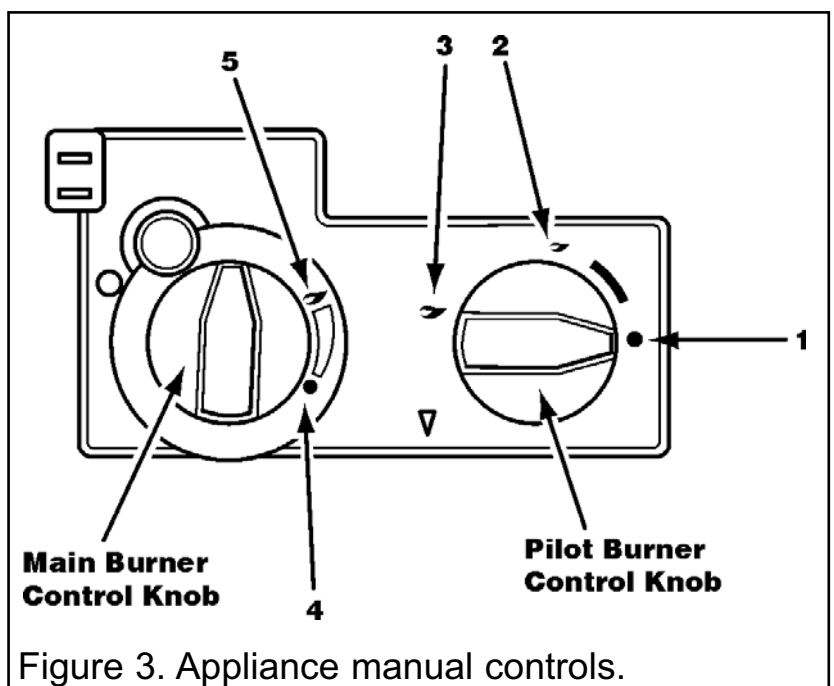

Figure 3. Appliance manual controls.
1. Ensure that the pilot burner control knob is in the OFF position (Number 1 in figure 3).
2. Depress the pilot burner control knob and turn slowly anti-clockwise to the ignition position (Number 2 in figure 3) to activate the piezo ignition system. A 'click' will be heard and the pilot should light. Observe if it is alight by looking through the slots to the left hand end of the front coals. If the pilot does not light immediately, repeat the above procedure, keeping the knob depressed for several seconds
1. Once the pilot light is established, light the main burner by turning the pilot burner control knob anti-clockwise to the "main burner on" position (Number 3 in figure 3), and by then turning the main burner control knob to the high position (Number 5 in figure 3).
2. Check the full range of heat settings by turning the main burner control knob slowly between the high position and the low position (Number 4 in figure 3).
Turn the main burner control knob fully clockwise. Alternatively turn the pilot burner control knob clockwise to the ignition position (2). Refer to figure 3.
Rotate the pilot/burner control knob clockwise to position 1, as shown in figure 3.
3. In order to disable the handset, but still leave the pilot alight, turn the pilot burner control knob to the ignition position (Number 2 in figure 3).
4. Turn the fire off by rotating the pilot burner control knob to the OFF position (Number 1 in figure 3).